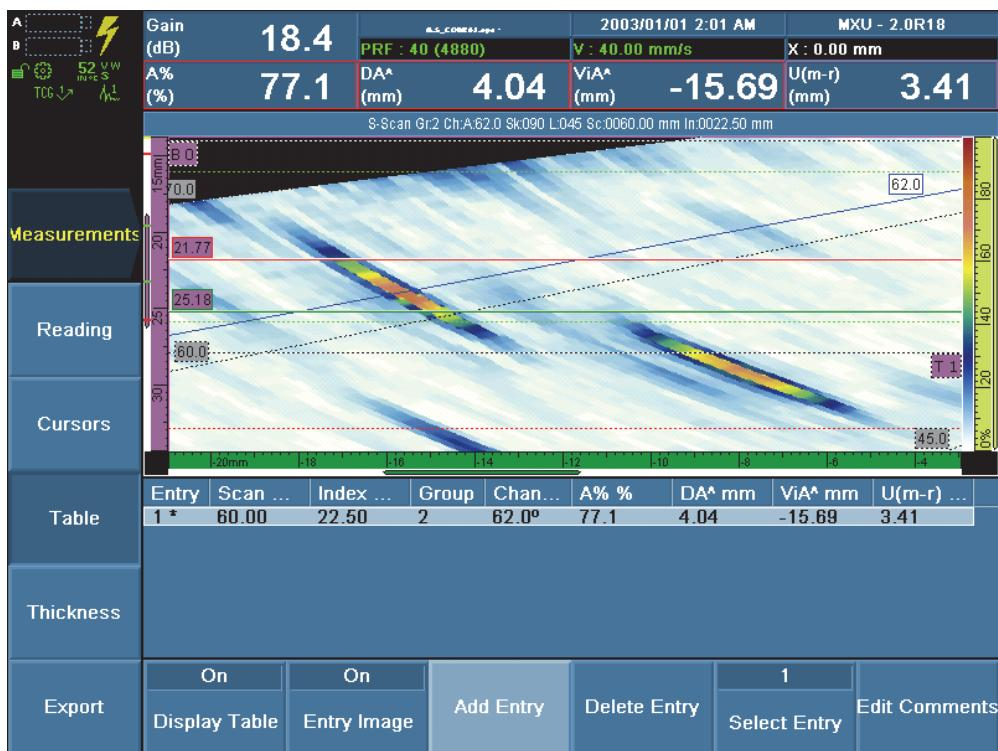

Figure 6 Adding an indication to the indication table
7. To include the indication in the indication table (see Figure 6 on page 21):